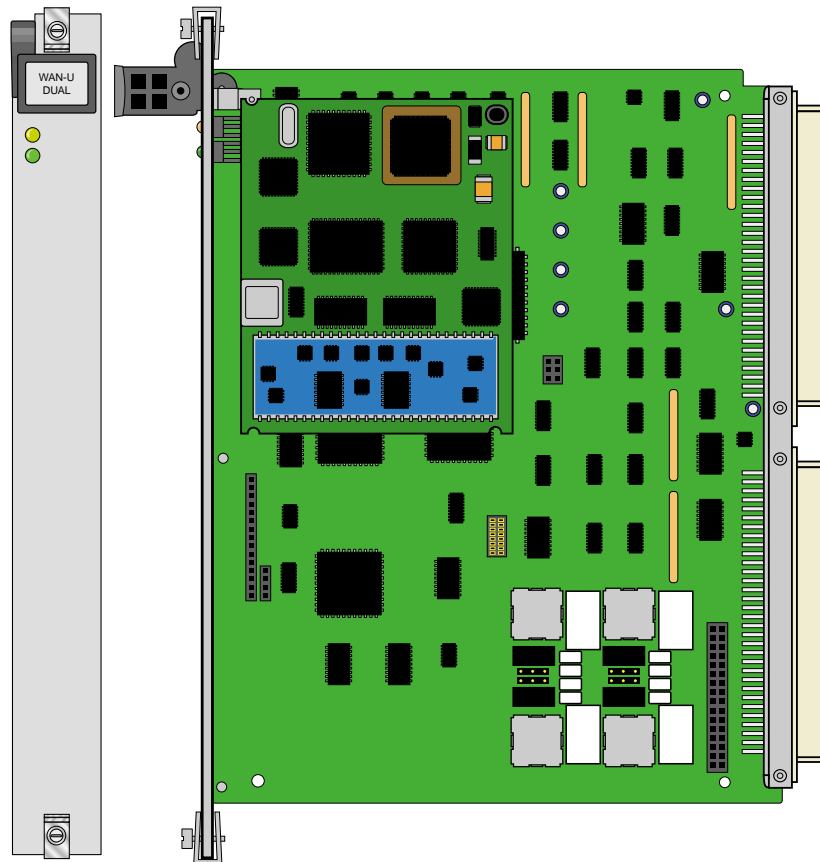

Figure 7-2.WAN-U DUAL Card (801160)
The WAN-U card is a dual-port card that provides HDSL 2.048 Mbps (E1) service when used with E1/HDSL plug-in modules (see Figure 7-2). **Only use the Adtran E1/HDSL module (820) with this card.**